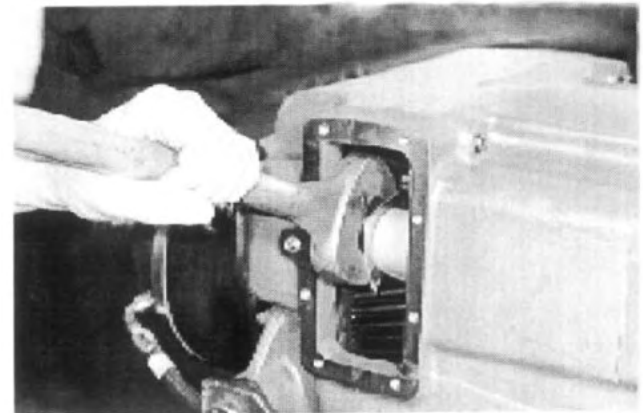

Fig. 9
11. Bend straight the tabs of the lock plate on the shifter shaft assembly inside the transfer case. Using a 9/16" Allen wrench inserted into the shift cylinder bore, and an open end wrench, loosen the adjustment nut on the shifter shaft assembly. See Fig. 9.